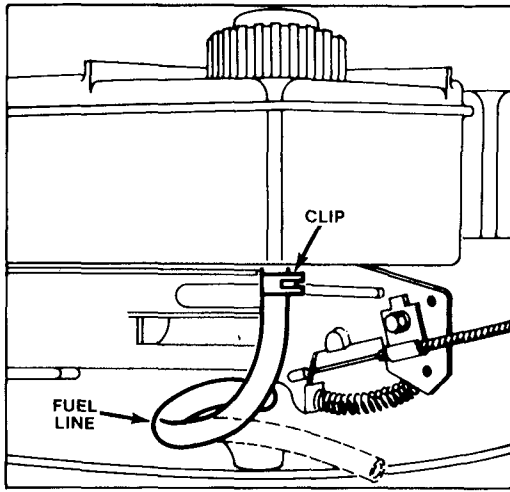

Figure 13
2. Squeeze ends of fuel line clip (Fig. 13) and slide clip down fuel line. Carefully pull fuel line off fitting and allow gasoline to flow into drain pan (Fig. 13).